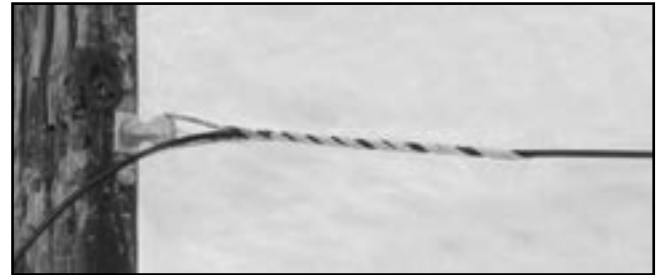

FIGURE 6 - COMPLETED INSTALLATION
1.04 Figure 6 shows the completed installation of the FIBERLIGN ADSS Drop Cable Dead-end.